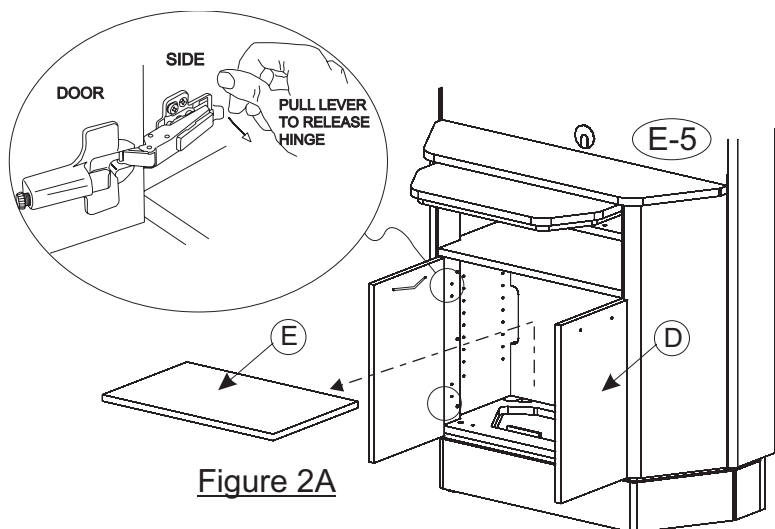

Figure 2A
For E-5 models: Remove the two doors (D) (see Figure 2A). Remount door handles from back side to front side. Remove the bottom cover (E) (see Figure 2A).